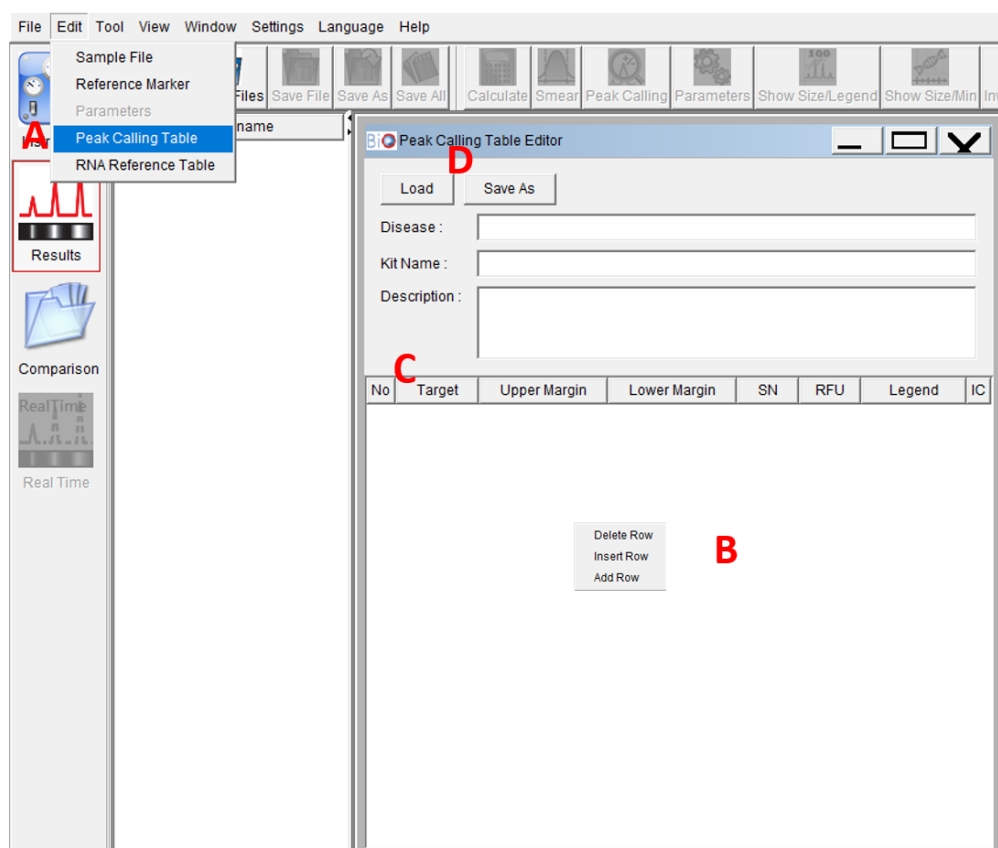

Figure 5-21 Peak Calling Table
Step 1. Click **Edit → Peak Calling Table** to load the Peak Calling table (Figure 5-21 A).
Step 2. Click the right button and select **Add Row** to add a new panel (Figure 5-21 B).
Step 3. Set up the new panel. Enter the criteria in the columns for the peak (Figure 5-21 C) and save as a new file (Figure 5-21 D) to the default folder.